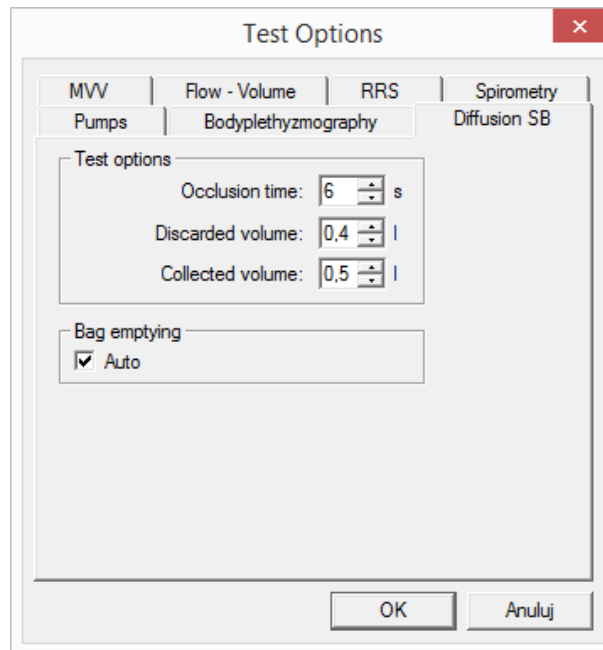

Fig. 17. Dialog box *Examination options – Diffusion SB*.
1. Select the command *Calibrate chamber* (menu *Tools*). Displayed will be the dialog box *Calibrate chamber* ( $\Rightarrow$  Fig.17). In this box you will initiate the calibration by clicking on *OK*.
The examination options are available on the tab *Diffusion SB* (⇒ Fig. 17) of dialog box *Examination options* (⇒ Chapter 3, point 2).